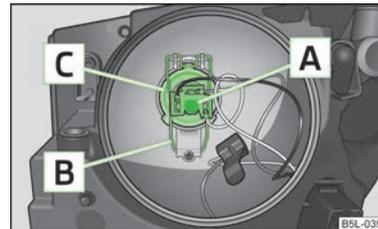

Fig. 169 Removing the light bulb for main beam light and low beam light
- Disconnect plug **A** » Fig. 169.